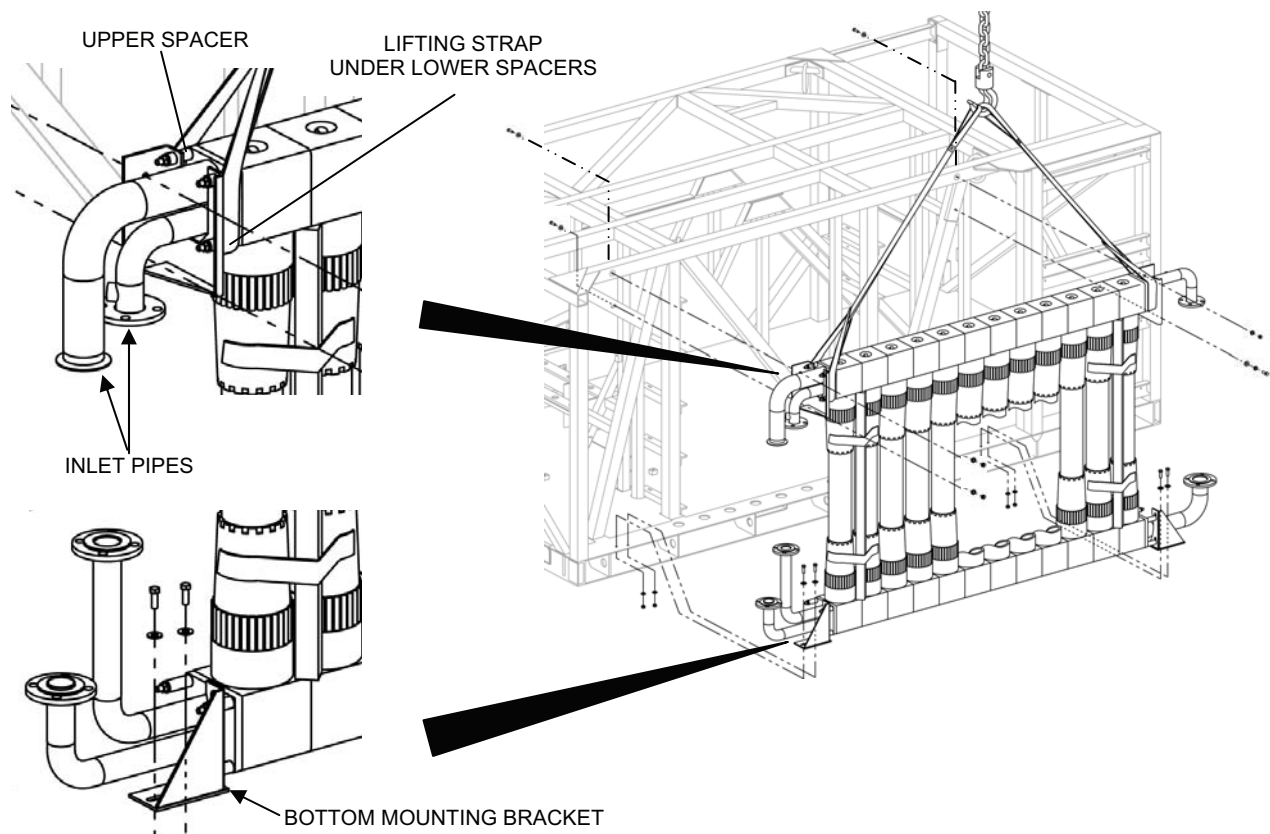

Figure 6. TWPS MF Assembly Removal.
- c. Bolt both bottom mounting brackets to the TWPS frame, but do not tighten (see Figure 6).